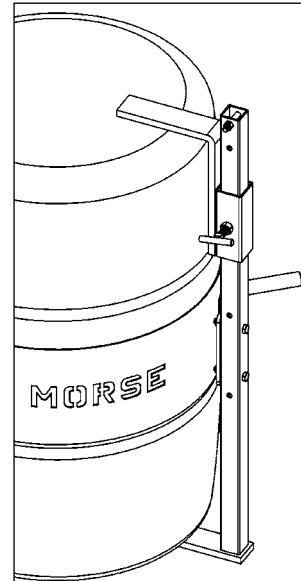

Figure 2.1
- The adjustable Bracket Assembly (Part # 4556-P) is **required** to handle a plastic drum without a top rim (see figure 2.1). The Bracket Assembly is also recommended when handling a fiber drum. You can also use the Bracket Assembly when handling a rimmed drum.